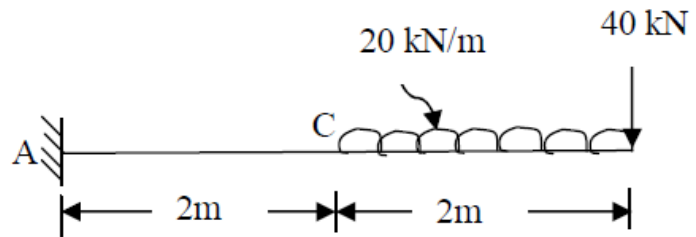

Figure 2
- (c) Determine deflection at free end for the Cantilever beam as shown in **figure 2**, using any method. Take $EI = 32000 \text{ kNm}^2$. **07**